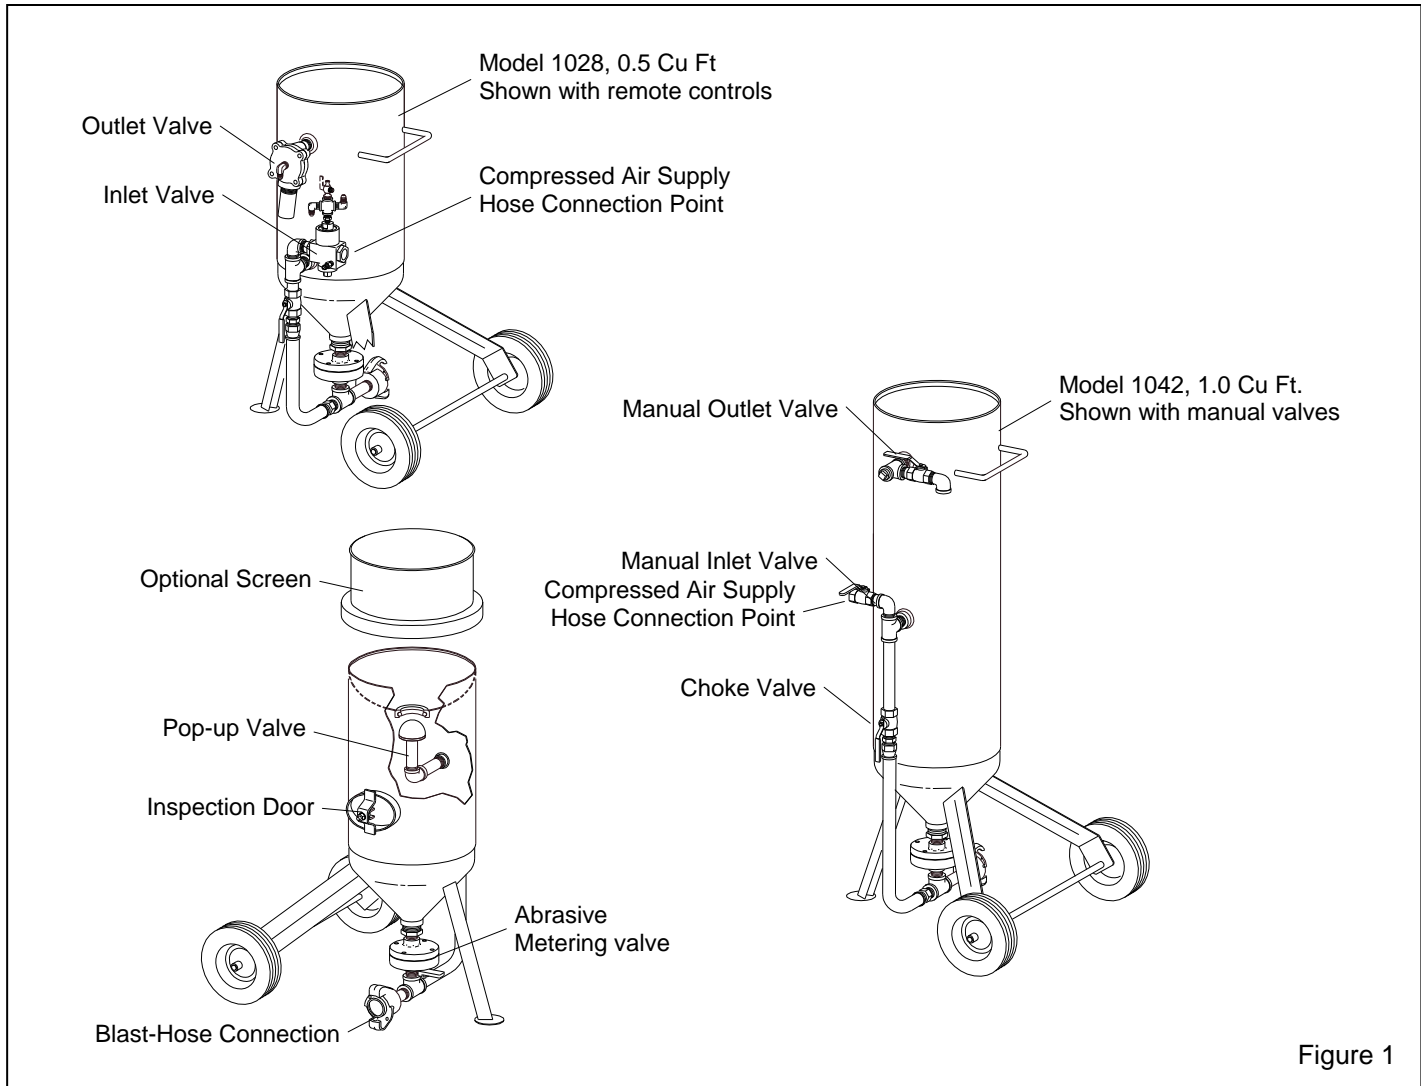

Figure 1
1.3.1 The primary components of the blast machine are shown in Figure 1.